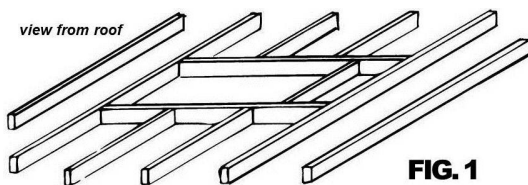
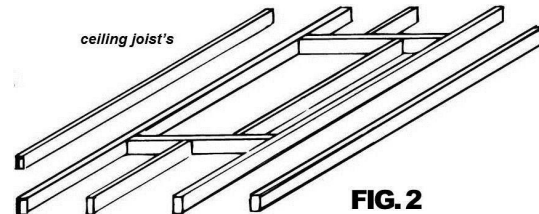

FIG. 1
FIG. 2
STEP TWO: What you need to make the opening – Timber Joist (Fig. 1 and Fig. 2): Timber, MPG10, 90x45mm pine or hardwood, about four (4) metres will be enough, pick a straight piece with minimal knots, and about 2 doz. 90mm long nails.